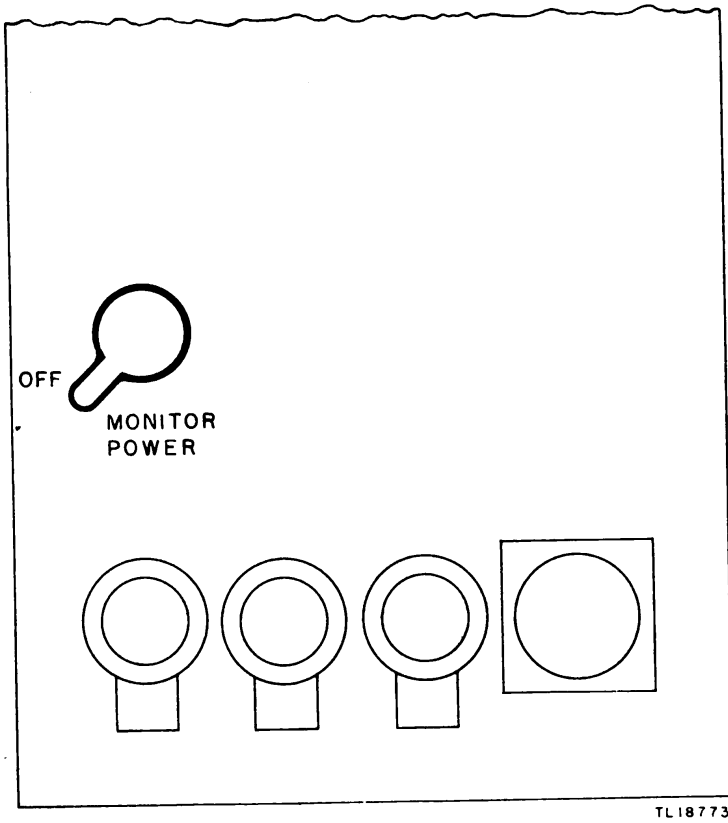

Figure 40. MONITOR VOLUME control.
d. MONITOR VOLUME Control (fig. 40). The MONITOR VOLUME control is used with Radio Sets AN/PPN-1 and AN/PPN-2.